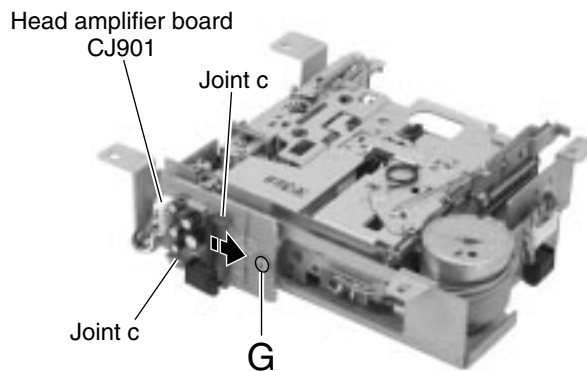

Fig.10
(See Fig.10)
1. Raise the part k of the reel base assembly slightly and remove the selector link (B) on the front side of the cassette mechanism assembly by turning it as shown in Fig.10.